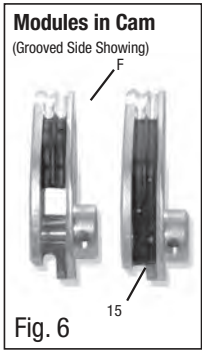

Fig. 6
- D. Install the new Module with the grooved side facing toward the cable (Fig. 6). Push it in gently but firmly until it matches up to the cable grooves on the cam. Tighten the set screw snugly, but **DO NOT OVER-TIGHTEN.**